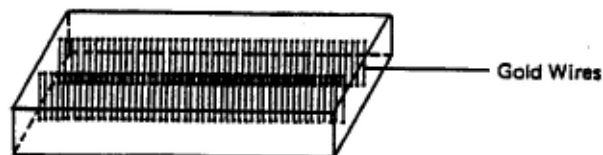

**Fig. 10**
- b) Align the upper and lower printed circuit patterns correctly, shown in (fig. 10), and fix firmly with screws.